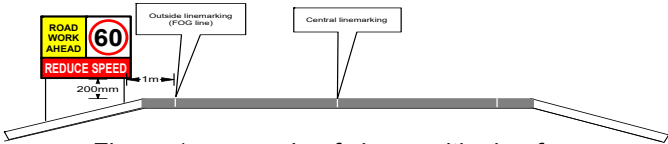

Figure 1 - example of sign positioning for short term (temporary) signage
- 7. Signage is to be placed 1 metre clear of the travelled path signage not to obstruct traffic or pedestrians or cyclists bike lanes. See Figure 1 and 2